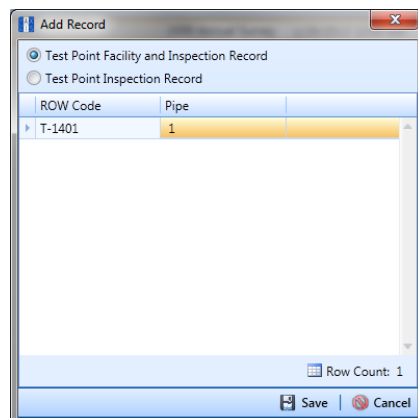

Figure 6-11. Add Record
- b Select the pipeline that you want to add a new facility and inspection record. For example, pipeline *T-1401* is selected in the following example (Figure 6-11, page 173).